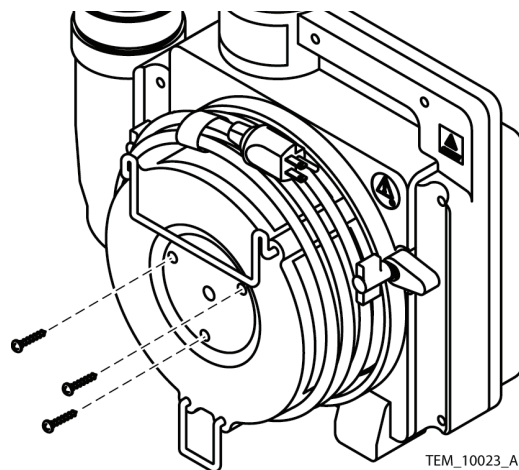

Figure 5. Filter Cover Screws
5. Remove the filter cover screws. See Figure 5.